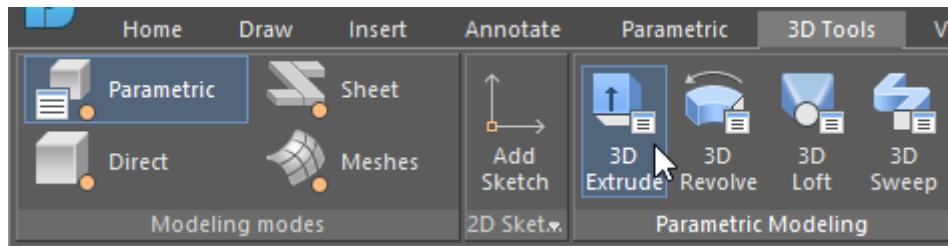

Fig. 7. The 3D Extrude operation
3.1. Click the **3D Extrude** command on the **3D Tools** tab (Fig. 7). Move the cursor to the circle area and confirm the sketch selection with the left-click (LMB).